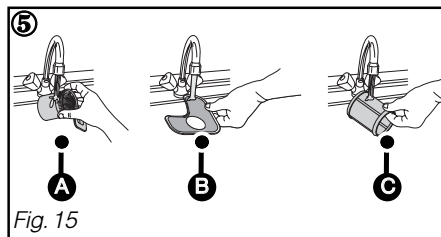

Fig. 15
- ② Loosen the waste filter a quarter of a turn and then remove it Ⓐ
- ③ Remove the main filter Ⓑ
- ④ Remove the micro filter Ⓒ
- ⑤ Carefully clean filters Ⓐ, Ⓑ and Ⓒ under running water (Fig. 15)